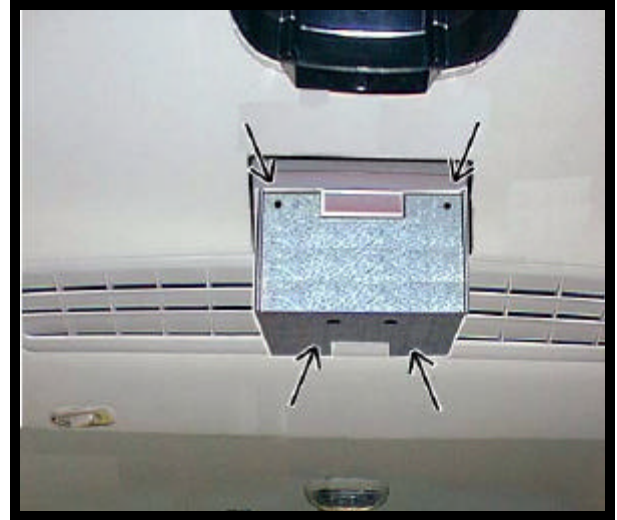

FIGURE 4
4. Install mounting bracket (item 6 pg 2) and secure using (2) two # 10 x 3/4" screws (item 1 pg 2) in bottom flange that aligns with dimples in roof brace. Secure top flanges using (2) two # 8 x 3/4" screws (item 3 pg 2). See Figure 4.